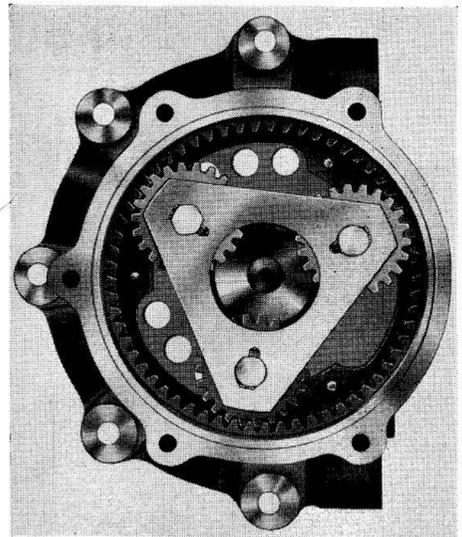

Fig. 4. Gearbox assembly
5. A further ballrace assembled in the gearbox housing supports the single stage epicyclic gear drive assembly (*fig. 4*). In addition the motor housing carries the brush gear assembly with the two terminal posts, mounted at the armature end of the housing.